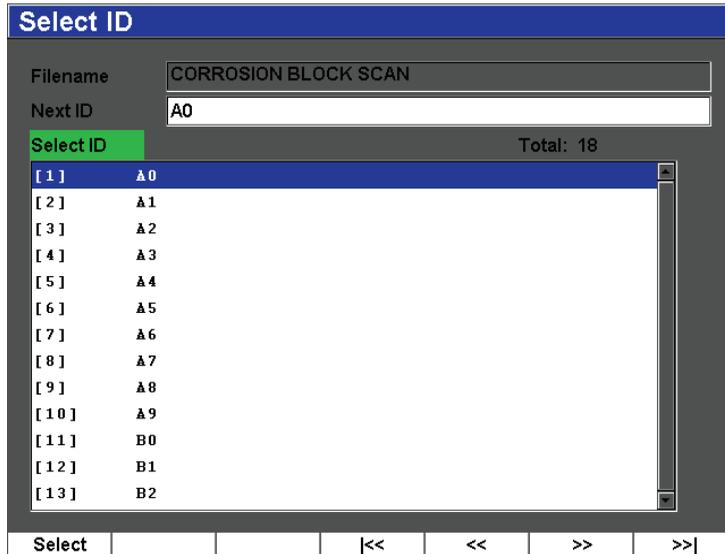

Figure 11-11 The Select ID menu
- To select from a list of all the available IDs in the currently open file, choose **File > Select ID** (see Figure 11-11 on page 211).